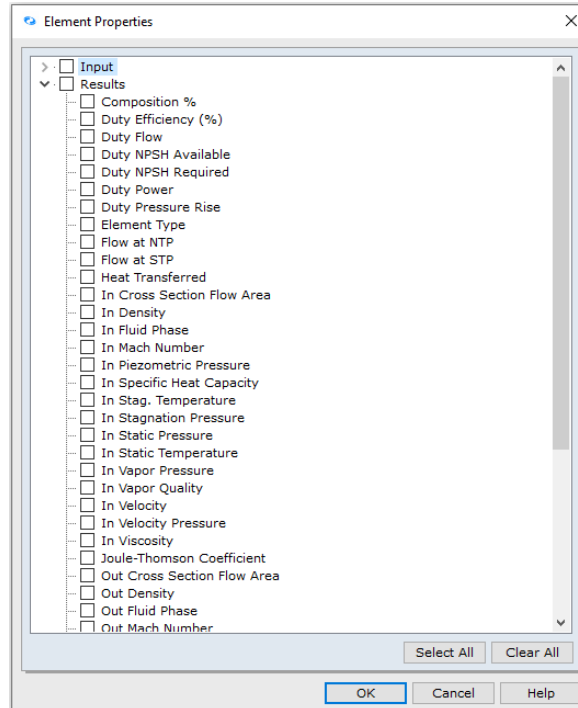

Figure 56: Element Properties Dialogue Box.
59. Now we will select the field titled *Properties* from the Input list. An *Element Properties* dialogue box will appear (Figure 56):